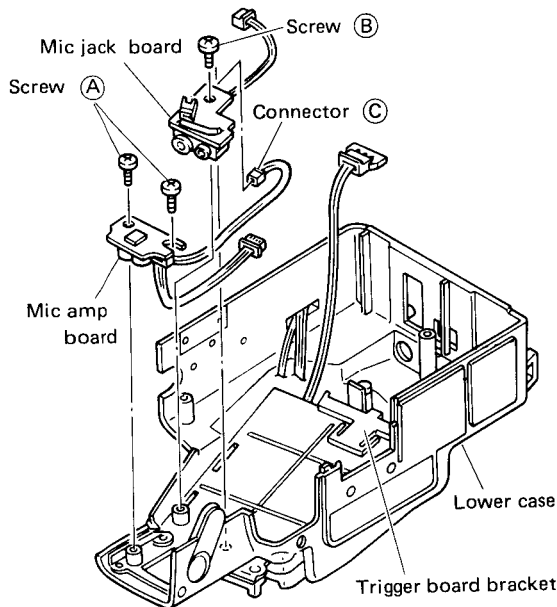

Fig. 1-2-1(A)
3. As indicated in Fig. 1-2-1(B), raise the cassette housing with one hand and shift the Y/C board downward with the other hand. The Y/C board together with connectors (U), (V) and (W) can be removed from the main board.
4. Remove screws (H) and (I) shown in Fig. 1-2-1(B). Disconnect connectors (J), (K), (L), (M) and (N) and the flexible wire (O), and then remove the MAIN board with careful attention to connectors connecting the MAIN board and the deck section.
5. Remove the SENSOR board by removing four screws (T) shown in Fig. 1-2-1(B).
6. Remove two screws (P) to remove the MDA board, and carefully disconnect connectors (Q), (R) and (S) between the MAIN and DRUM boards.